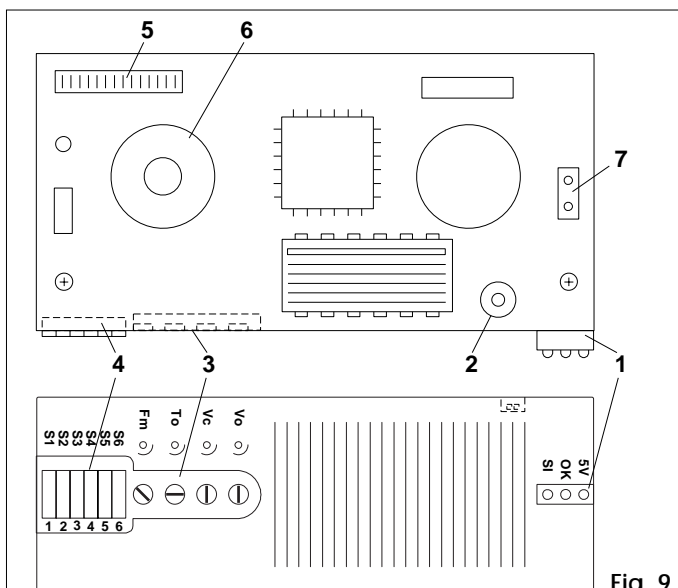

Fig. 9
- 7) Check that the 5V LED on the programming unit (fig. 9) lights up.
- ① Signalling LEDs (see Table 5)
- ② Signalling buzzer (see section 5.4.)
- ③ Adjusting trimmer
- ④ Programming microswitches
- ⑤ Connector (16 pole) for connection with 959 MP electronic control unit
- ⑥ Encoder
- ⑦ Connector (2 pole) for connection with 959 MP electronic control unit
The programming unit features trimmers (fig. 9 - ref. 3) which regulate the following parameters: